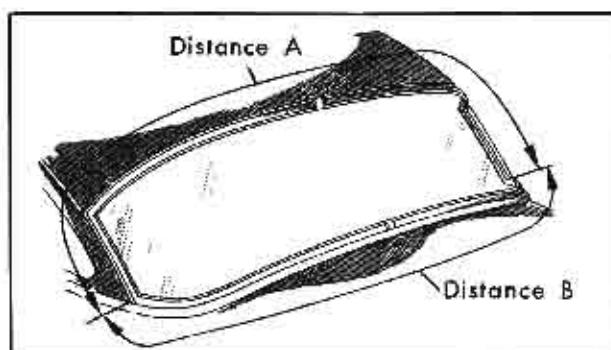

Fig. 3-71 Sealing Rear Window
7. Apply a 3/16" bead of medium-bodied sealer to the corner of the back window opening rabbet across the top and down the sides of the back window opening, as indicated by line "A", Fig. 3-71. On coupe styles, extend this bead of sealer completely around the back window opening rabbet as indicated by lines "A" and "B".